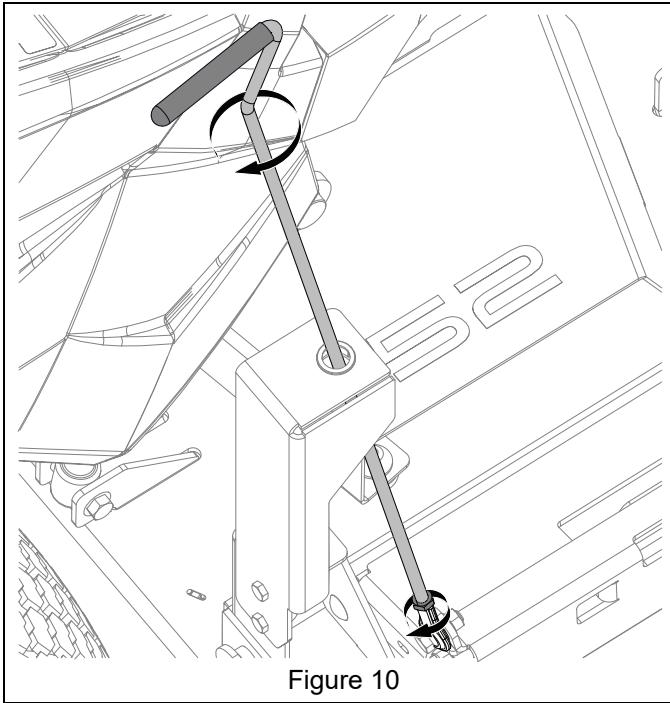

Figure 10
10. Tighten jam nut against ball joint. See Figure 10.